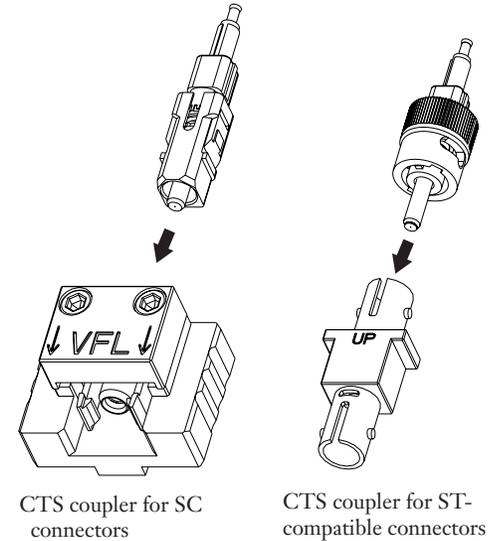

Figure 5-9
**5.3-5** If you are using the CTS system, remove the front dust cap from the connector and plug the connector into the appropriate CTS coupler as shown in Figure 5-9.